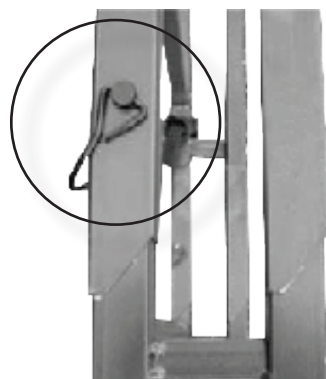
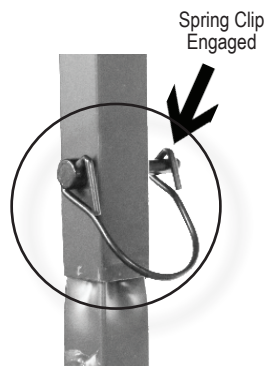

Figure 27
Figure 28
STEP 12: With the assembly still laying on the ground, install the ladder sections by pinning them together using the spring pins. Make certain the spring pins engage each ladder section as shown in Figure 27 and the spring clips are fully engaged as shown in Figure 28.